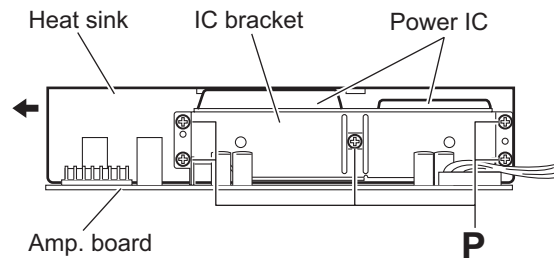

Fig.13
3.1.13 Removing the heat sink (See Figs. 13 and 14)
- From the front side of the amp. board, remove the five screws **P** attaching the IC bracket and take out the IC bracket. (See Fig.13)
- Move the heat sink in the direction of the arrow to release the three claws **d** and remove the heat sink. (See Figs.13 and 14)